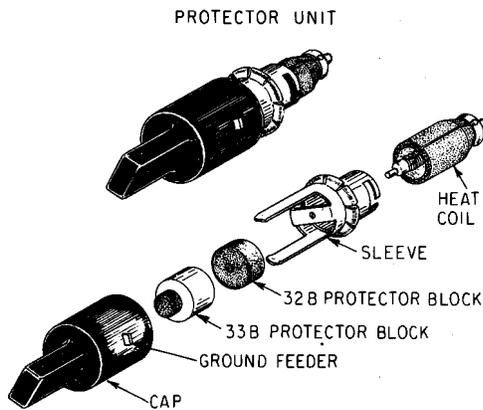

Fig. 4—Protector Unit and Components
3.22 Disassemble the protector unit by holding the cap in one hand and the sleeve (Fig. 4) with the other hand. Withdraw the sleeve (containing the heat coil and protector blocks) from the cap.
3.29 Place the protector blocks in the sleeve of the protector unit (Fig. 4) before the heat coil is installed.